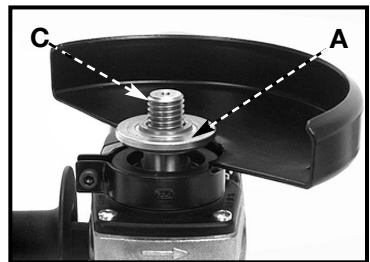

Fig. 5
3. Position the inner flange (A) Fig. 5 on the spindle (C) with the round hub facing outward, away from tool. Rotate the flange until it drops into place on the spindle.